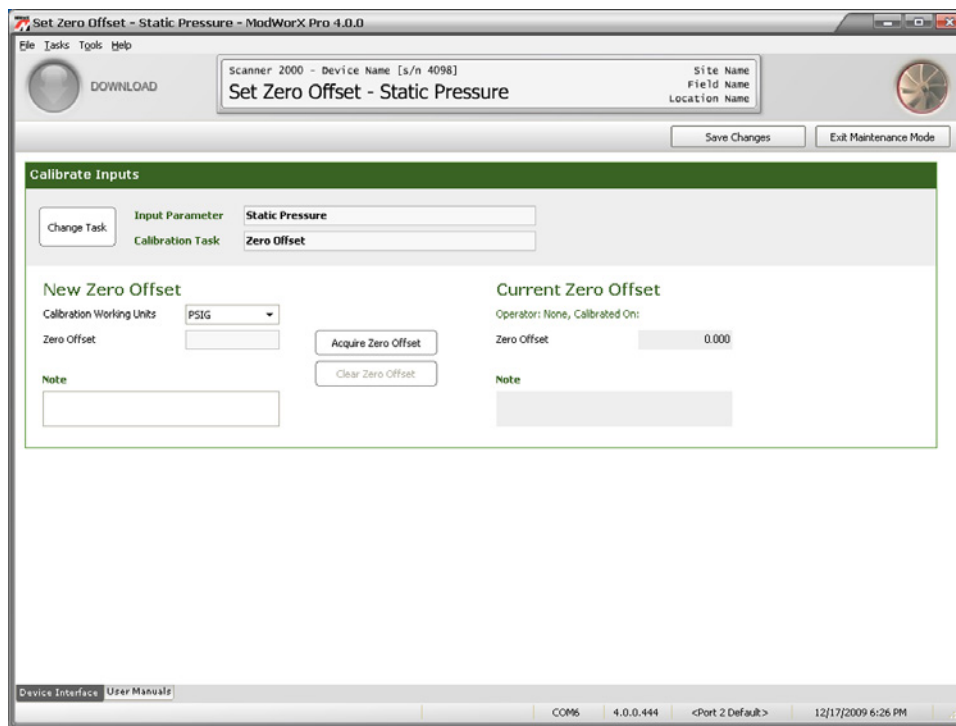

Figure 8.11
3. The Set Zero Offset – Static Pressure screen will appear, and the input parameter and calibration task selections you made will appear at the top of the screen (Figure 8.11, page 119).